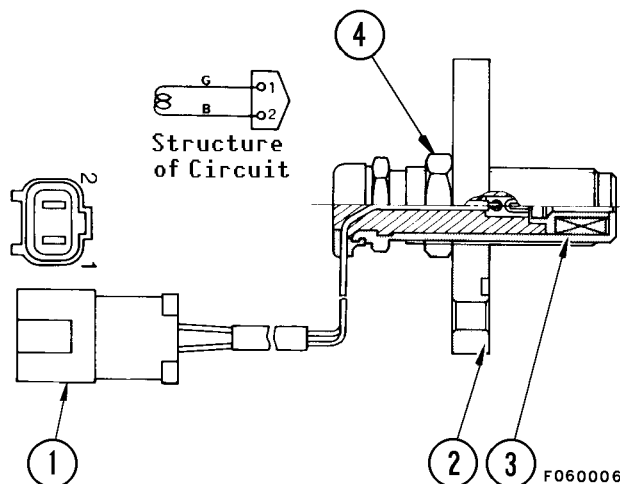

FIGURE 6-4. TRANSMISSION SPEED SENSOR
1. Disconnect wire connector (1, Figure 6-4), release locknut (4), and remove sensor. Observe location of gear teeth through sensor mounting hole. For proper adjustment, the tip of a gear tooth **must** be aligned with the sensor hole as shown in Figure 6-10. If necessary, reposition gear.